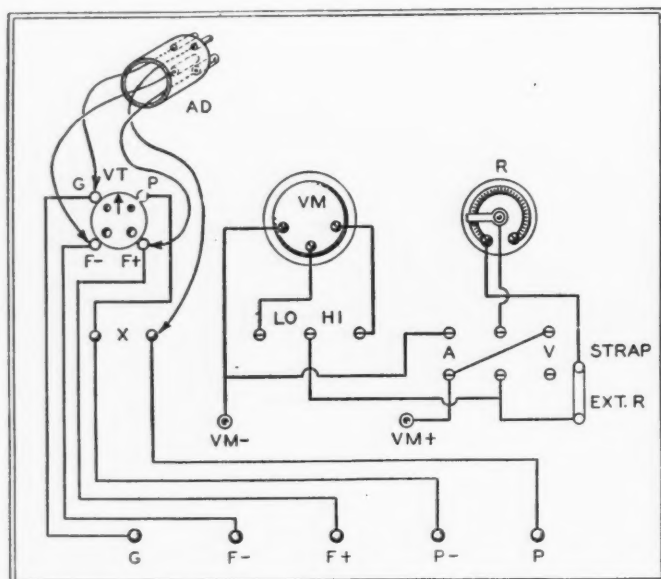

FIGS. 5, 6 AND 7, SHOWING CONNECTIONS FOR THE RHEOSTAT, SERIES-PARALLEL SWITCH; ALSO VOLTMETER PIN-JACKS AND BINDING POSTS FOR CUTTING IN EXTRA RESISTANCE
Figs. 5, 6 and 7 show the connections of the rheostat (R), series-parallel switch (AV), voltmeter (VM) and voltmeter switch (LO-HI), also voltmeter pin-jacks, and binding posts for cutting extra resistance in series with R. Figs. 6 and 7 are schematic diagrams showing the connection made when the switch AV is operated towards either V or A.